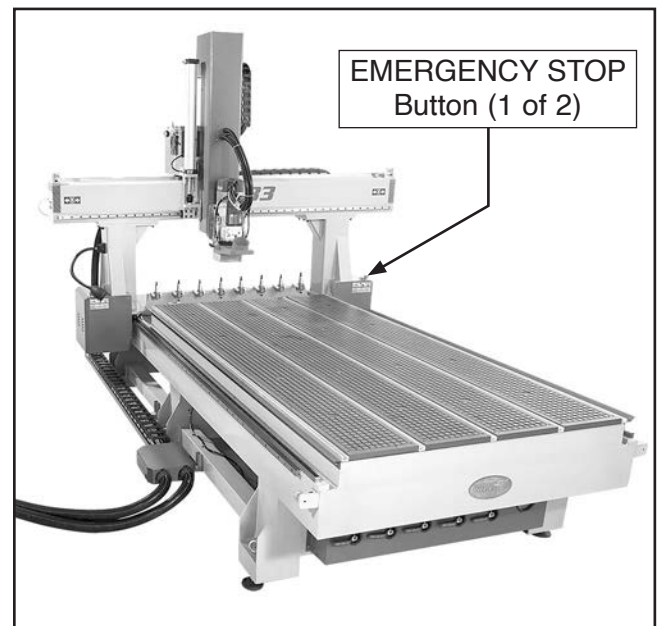

Figure 96. Gantry EMERGENCY STOP buttons location.
1. On gantry, twist both EMERGENCY STOP buttons clockwise until they spring out (see **Figure 96**).